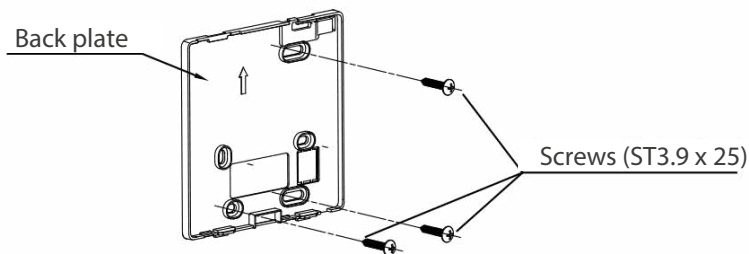

Fig. 3-3
- For exposed mounting, fasten the back plate on the wall with the 3 screws (ST3.9 x 25) and plugs. (Fig.3-3)